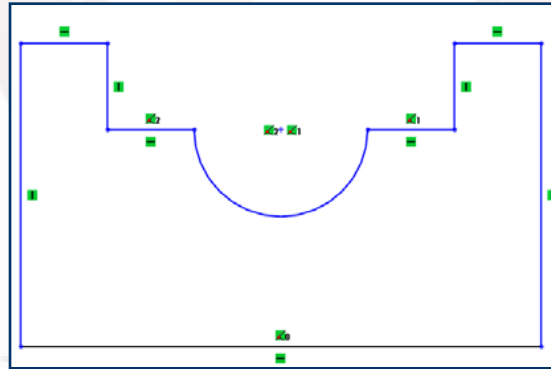

Figure 63 Final sketch for Tutorial 2
4. Draw the sketch using the **Line** tool, refer to **Figure 63**.